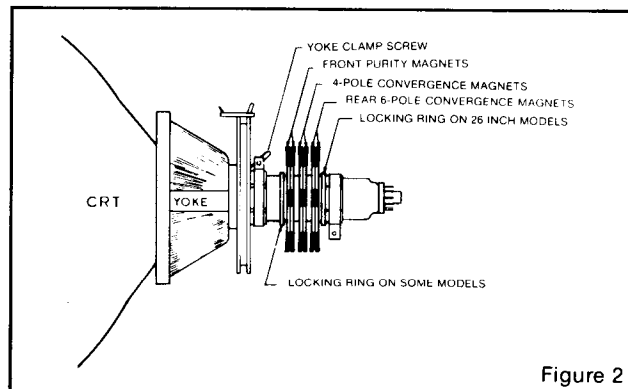

Figure 2
1.1 Loosen yoke retaining clamp (figure 2), remove adhesive material fixing wedges to CRT. Remove wedges completely and clean off dried adhesive from picture tube and wedges.
NOTE: Static convergence is achieved by four magnets located on the neck, nearest the base of the picture tube, Fig. 2. The middle pair of magnetic rings are adjusted to converge the blue and red crosshatch lines. The rear pair of convergence rings (closest to the base of the picture tube) are adjusted to converge the magenta (blue/red) to the green crosshatch lines. Dynamic convergence is achieved by tilting the deflection yoke up-down and left-right.